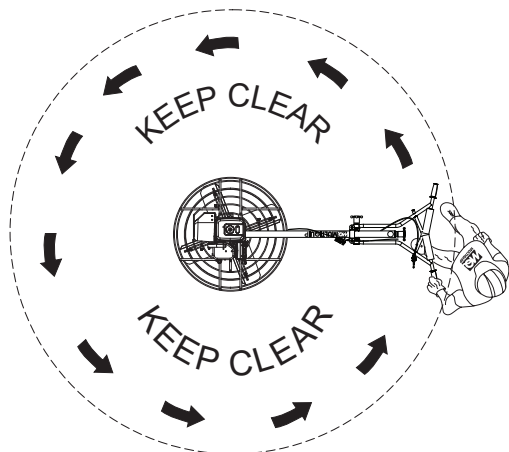

Figure 35. Centrifugal Safety Stop Switch Test
- Stand in the operator's position behind the handle (Figure 35) and spin the handle to the right, simulating a runaway condition. Centrifugal force should throw the safety switch outward to the **OFF** position, thus shutting off the engine.